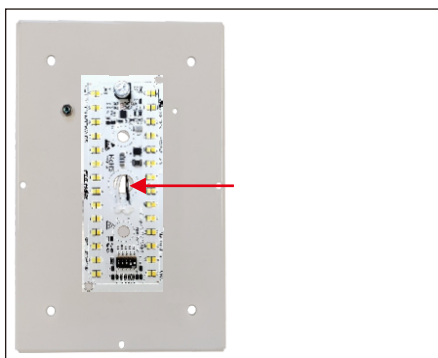

Figure 3
3. Route the input wires of LED Engine (A) into the wire hole of the luminaire back plate and place the LED Engine (A) onto the luminaire back plate as shown on Figure 3.